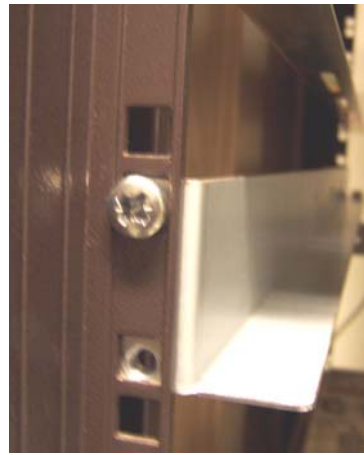

Figure 5. Rack mounting kit mounted in rack
5. Mount the “Rail Left Assembly” at the desired height using one M6x12 screw in front (upper hole in rail only) and two M6x12 screws at the back. See Figure 5.
Figure 5 shows step 5 in the description: